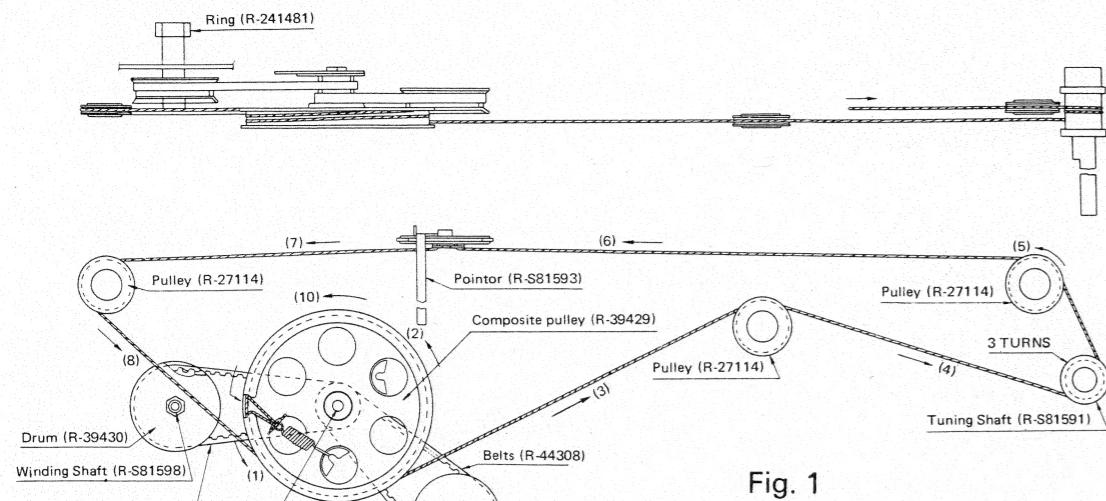

Fig. 1
- Mount Shaft (R-241478) onto chassis with Spring Washer (3φ) and Hex. Nut (3φ). Apply any lubricant onto the surface of it. Place Stopper (R-113270) and Stopper (R-113271) through Shaft, then mount Composite Pulley (R-39429) with two Belts (R-44308) attached in such a position as it's recessed opening faces downward as shown in Fig. 1 when Stoppers are hindered from swinging further by a projection on chassis.
- a) Mount Shaft (R-241478) onto chassis with Spring Washer (3φ) and Hex. Nut (3φ). Apply any lubricant onto the surface of it. Place Stopper (R-113270) and Stopper (R-113271) through Shaft, then mount Composite Pulley (R-39429) with two Belts (R-44308) attached in such a position as it's recessed opening faces downward as shown in Fig. 1 when Stoppers are hindered from swinging further by a projection on chassis.